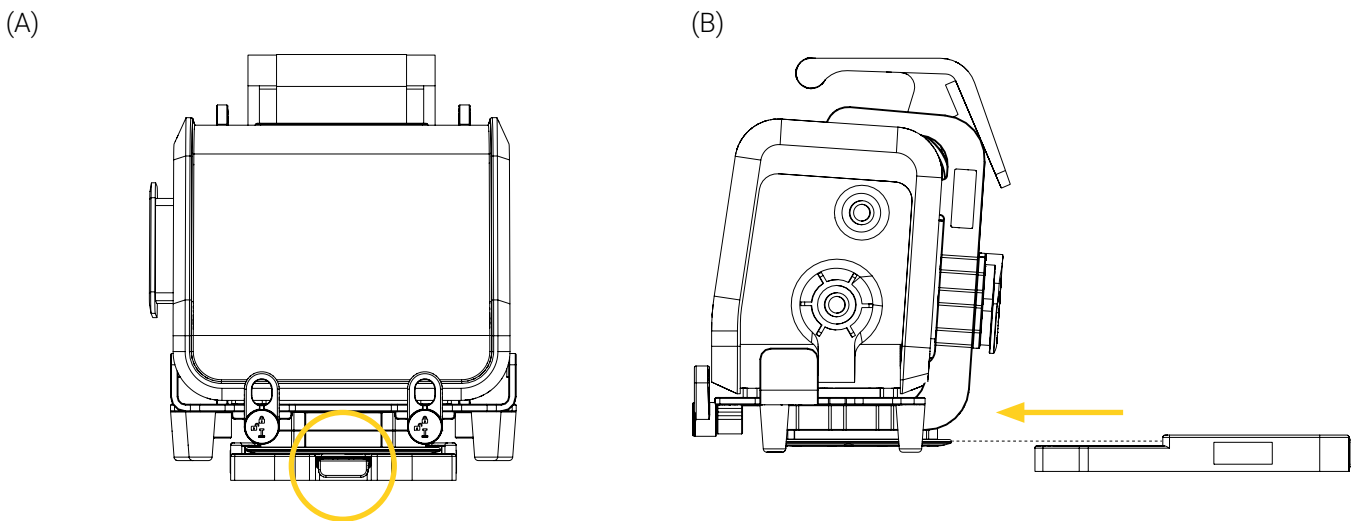

Figure 8: Removing the mounting bracket from the Extended Surface Base
1. Remove the mounting bracket from the Extended Surface Base using the quick release button located at the front of the base (Figure 8). Refer to the « Safety Mechanism » section on page 18 if needed.